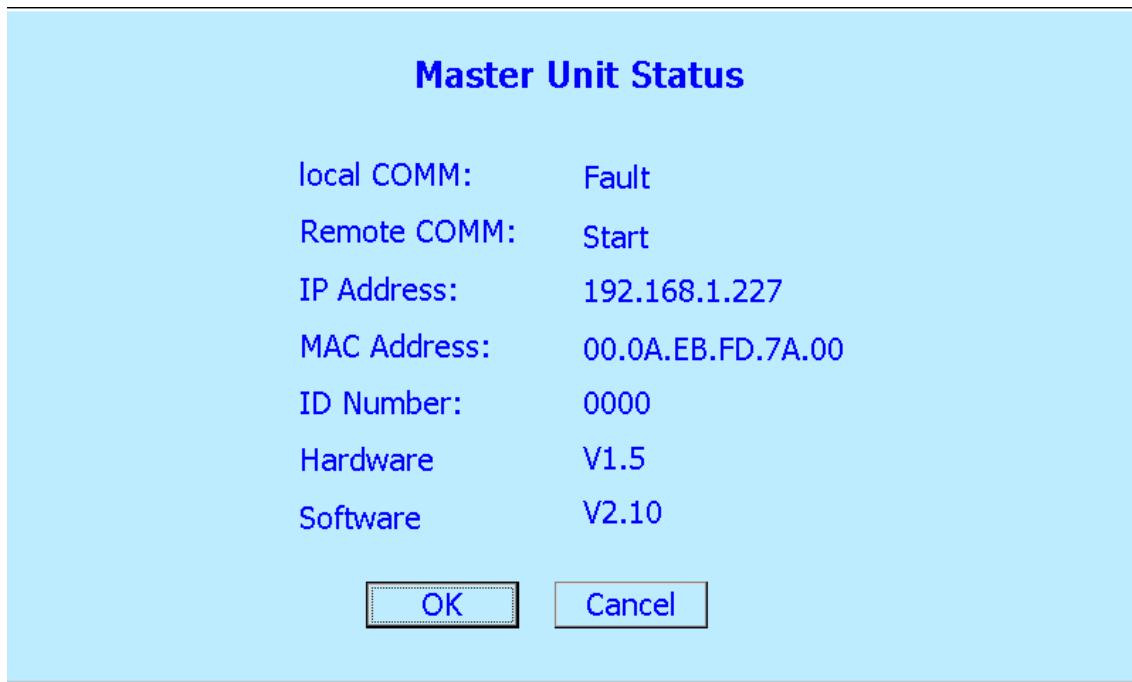

Figure 3.1.5.13 Master Control Unit Status
The usage is the same as Transmitter Condition Record Menu and Transmitter Fault Record Menu. Figure 3. 1.5.11 and Figure 3.1.5.12 are the PA Fault Record interface and PA Condition Record interface.
2. Setting timing record time interval. This menu is used to setup the status recording time interval for overall transmitter and power amplifier. The default time interval is 30 minutes. Users can set the needed state record interval according to own requirement, and press “OK” to save the current settings, or press “Cancel” to return. Please refer to figure 3.1.5.15.